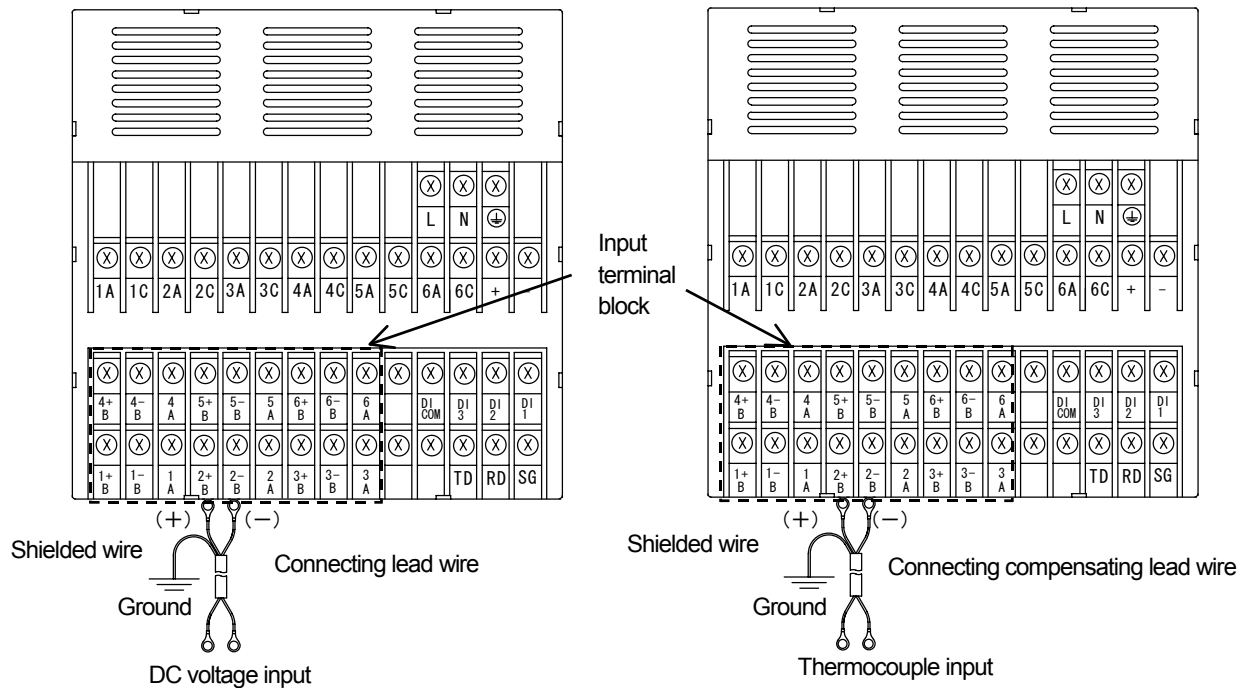
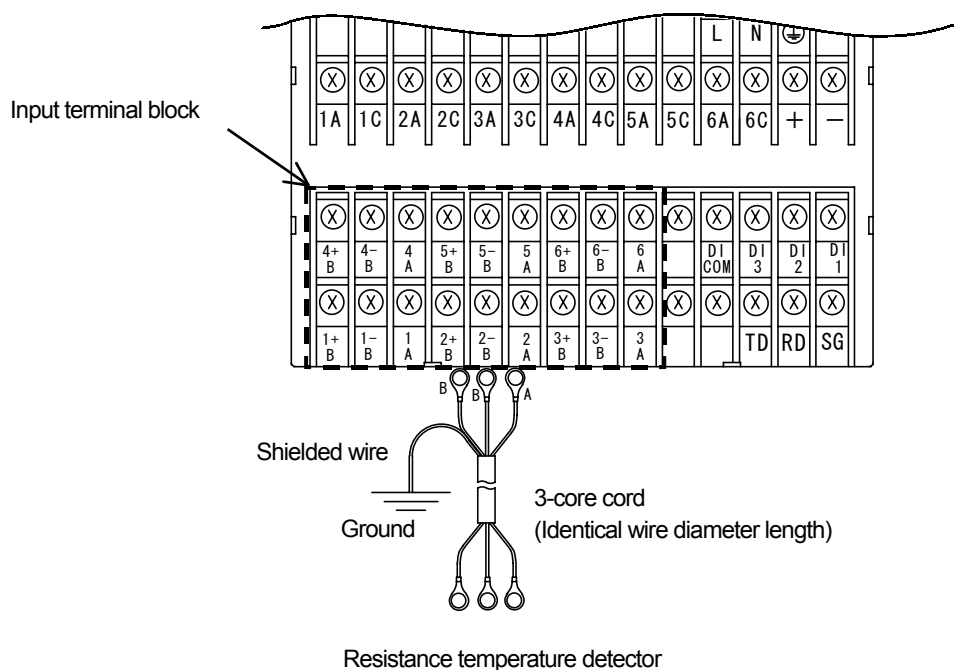
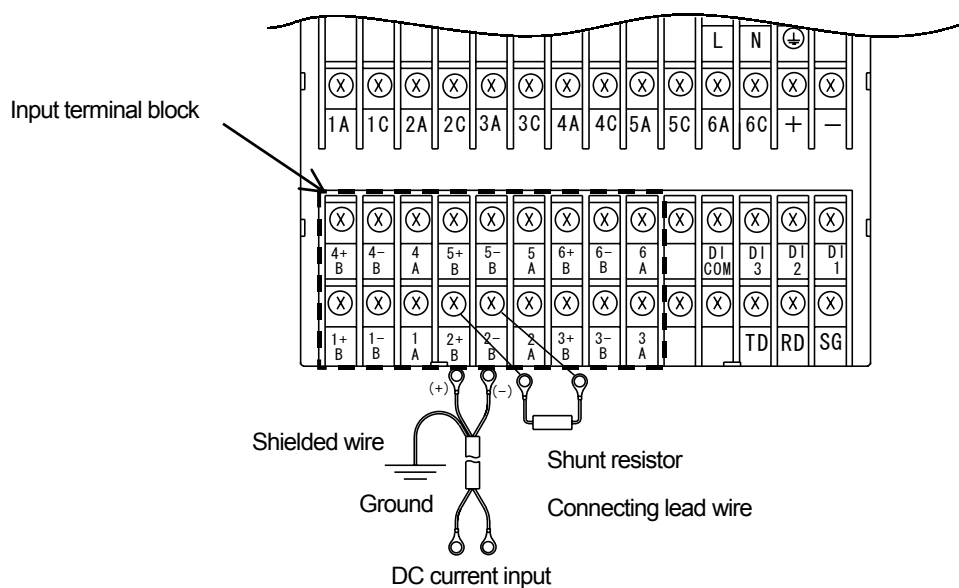

Fig. 4.3 Input Wiring (For mV, V and Thermocouple inputs)
Fig. 4.4 Input Wiring (For Resistance temperature detector)
Fig. 4.5 Input Wiring (For mA input)
- 2) Wire the input lines referring to Fig. 4.3(Page 18), Fig. 4.4 and Fig. 4.5.(Page 19)